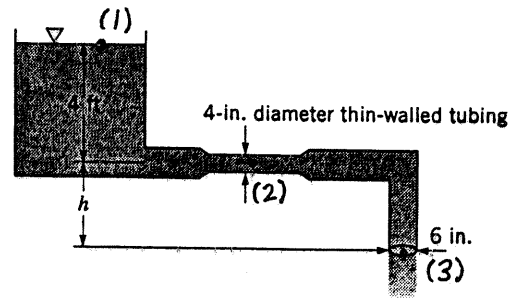

FIGURE P3.48
3.48 Water flows steadily with negligible viscous effects through the pipe shown in Fig. P3.48. It is known that the 4-in. diameter section of thin-walled tubing will collapse if the pressure within it becomes less than 10 psi below atmospheric pressure. Determine the maximum value that h can have without causing collapse of the tubing.